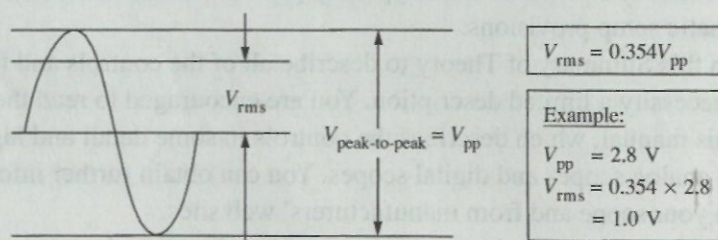

Figure 17-2
Because the oscilloscope can show a voltage-versus-time presentation, it is easy to make ac voltage measurements with a scope. However, care must be taken to equate these measurements with meter readings. Typical digital multimeters show the *rms* (root-mean-square) value of a sinusoidal waveform. This value represents the effective value of an ac waveform when compared to a dc voltage when both produce the same heat in a given load. Usually the *peak-to-peak* value is easiest to read on an oscilloscope. The relationship between the ac waveform as viewed on the oscilloscope and the equivalent rms reading that a DMM will give is illustrated in Figure 17-2.
5. Set the function generator for an ac waveform with a frequency of 1.0 kHz. Adjust the amplitude of the function generator for 1.0  $V_{\text{rms}}$  as read on your DMM. Set the SEC/DIV control to 0.2 ms/div and the VOLTS/DIV to 0.5 V/div. Connect the scope probe and its ground to the function generator. Adjust the vertical POSITION control and the trigger LEVEL control for a stable display near the center of the screen. You should observe approximately two cycles of an ac waveform with a peak-to-peak amplitude of 2.8 V. This represents 1.0  $V_{\text{rms}}$ , as shown in Figure 17-2.